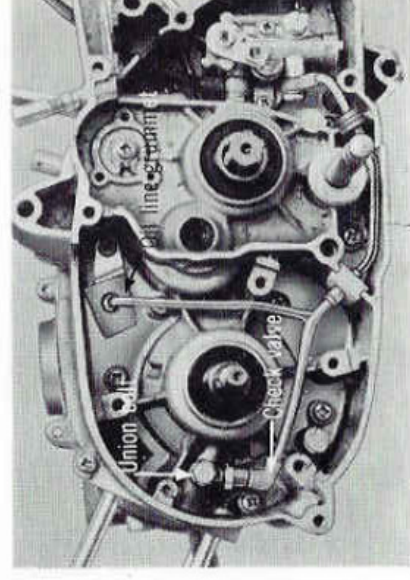

Fig. 8-2-10
10. Remove a **union bolt** on the left half of the crankcase with a 10 mm wrench and loosen the **oil line grummet** fitting screw with a cross head screw driver. (Fig. 8-2-10)